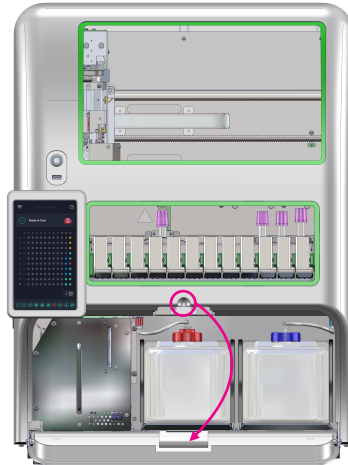

Figure 54
1. Open the front door to access the Bottle Compartment (Figure 54).